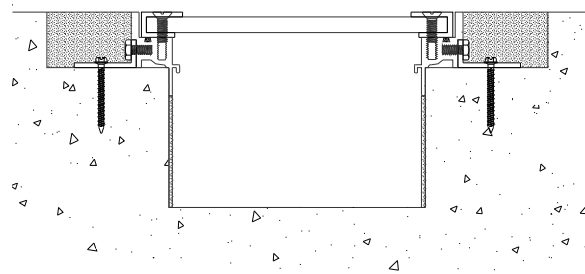

Figure 8
STEP 12. Remove the temporary wooden cover from the frame. Select the cover plate, and place the cover plate back into its installed position in the frame, and re-attach the cover plate to the frame, see Figure 8.